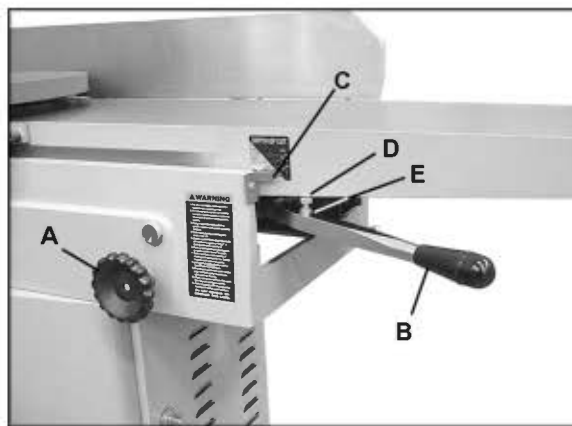

Figure 17
1. To set the cutting depth, loosen handwheel (A, Figure 17) by turning counterclockwise.
2. Move table adjustment arm (B, Figure 17) up or down to raise or lower infeed table. The pointer (C, Figure 17) shows the depth of cut on the adjoining scale.
3. Tighten handwheel securely (A, Figure 17).
The stop screw (D, Figure 17) on the infeed table should be set so that when it contacts the table, the infeed table will be exactly level with the knives (with the scale pointer at zero). The setting of this stop screw has been made at the factory but should be checked by the operator before using the jointer. It should also be checked occasionally as the machine receives use.
Use the same procedure as for the outfeed table, placing the straightedge across outfeed table, cutterhead and infeed table. Loosen the hex nut (E, Figure 17) and adjust the stop screw (D, Figure 17) as necessary. When finished, retighten hex nut (E, Figure 17).
If the infeed table is level with the knives but the scale pointer (C, Figure 17) appears to be off, loosen the scale pointer with a screwdriver and adjust it as needed until it reads zero. Retighten the screw.